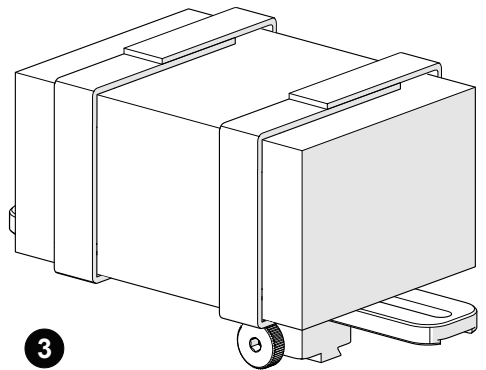

Fig. 81 - Mount bracket on a frame bar
3. Secure the preamp to the bracket attaching each side of the velcro (*Fig. 81*).